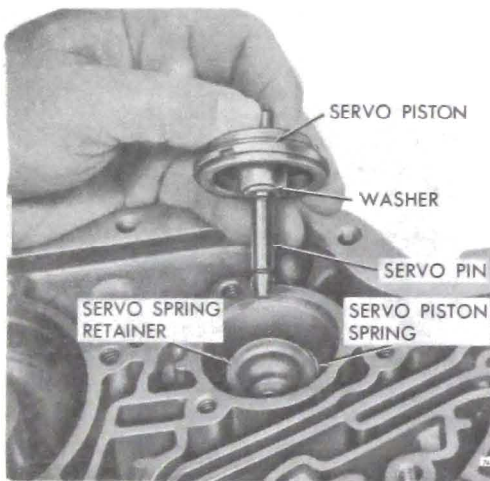

Figure 76-527
9. Remove front servo piston, washer, servo pin, retainer, and spring from transmission. See Figure 76-527.